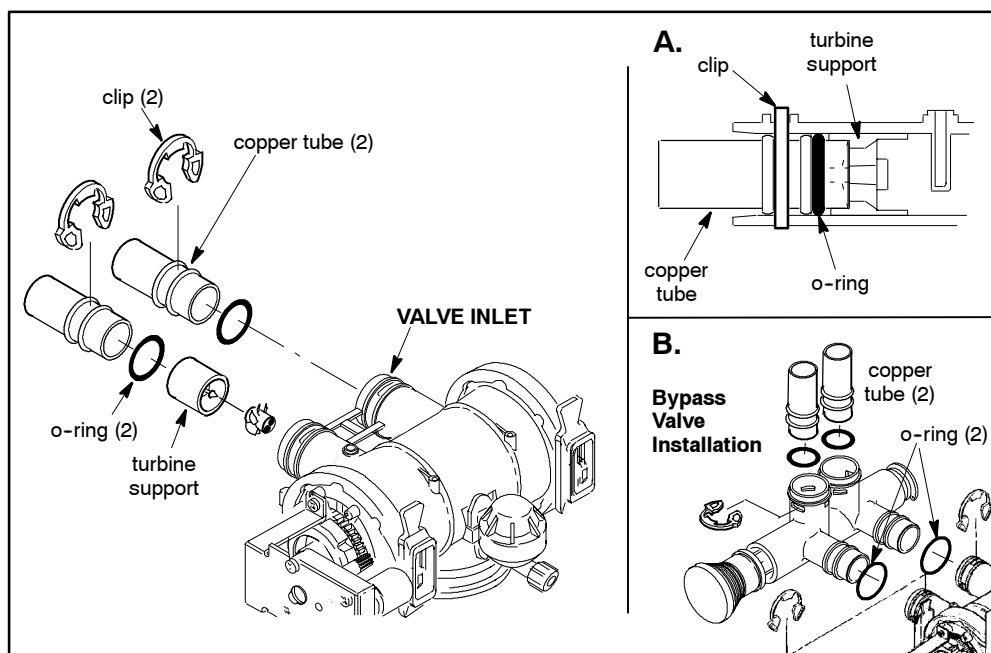

FIG. 3
b. Slide a lubricated o-ring seal onto each of the copper tubes. Carefully insert the copper tubes into the bypass valve (See Figure 3B), or into the softener valve (Figures 3 & 3A). Then install the "C" clips.